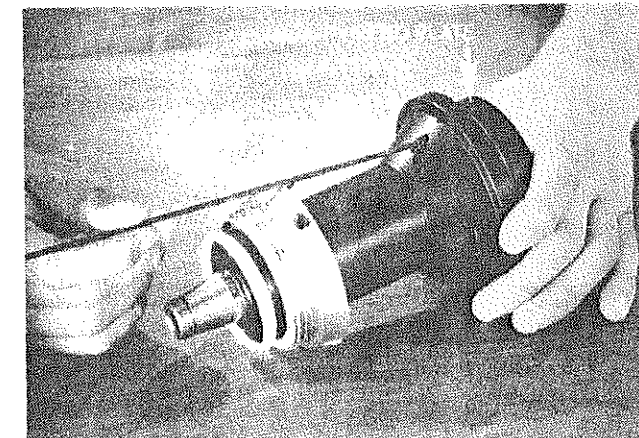

FIG. 10
6. Remove four M3X20 MM cap screws with 2½ MM allen hex wrench (Fig. 10).
7. Remove feed plate (Fig. 10). Note: If rotor could not be removed from shaft in step 5, it will be easily removed after the feed plate is taken off.